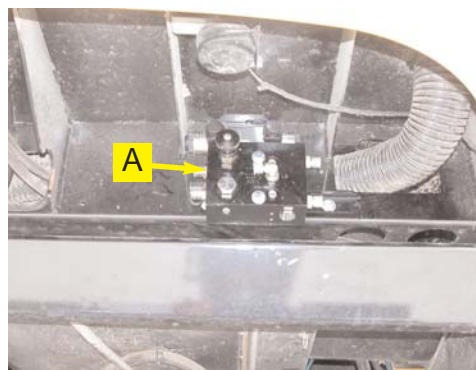

Figure 2c. Mounted Automated Steering Block.
- c. Use the provided mounting hardware in group (E) to attach the Automated Steering Block, as prepared in step 1, to the mounting bracket. (Figure 2c.)